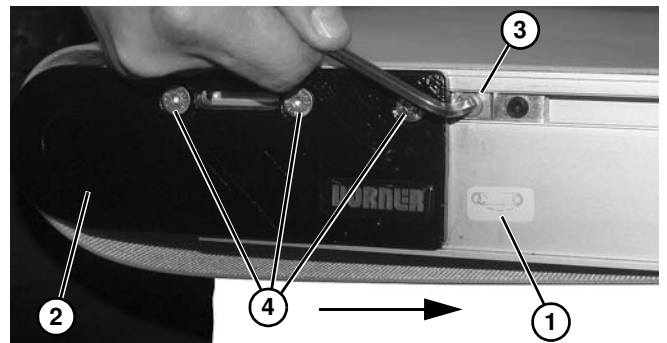

Figure 6
- a. On idler end of conveyor, identified with a  label (**Figure 6, item 1**), push in head plate assembly (**Figure 6, item 2**):
•On both sides of conveyor, loosen and move cam tracking assemblies (**Figure 6, item 3**) (if equipped) away from head plates.
•Loosen fastening screws (**Figure 6, item 4**) and push head plate assembly inward.